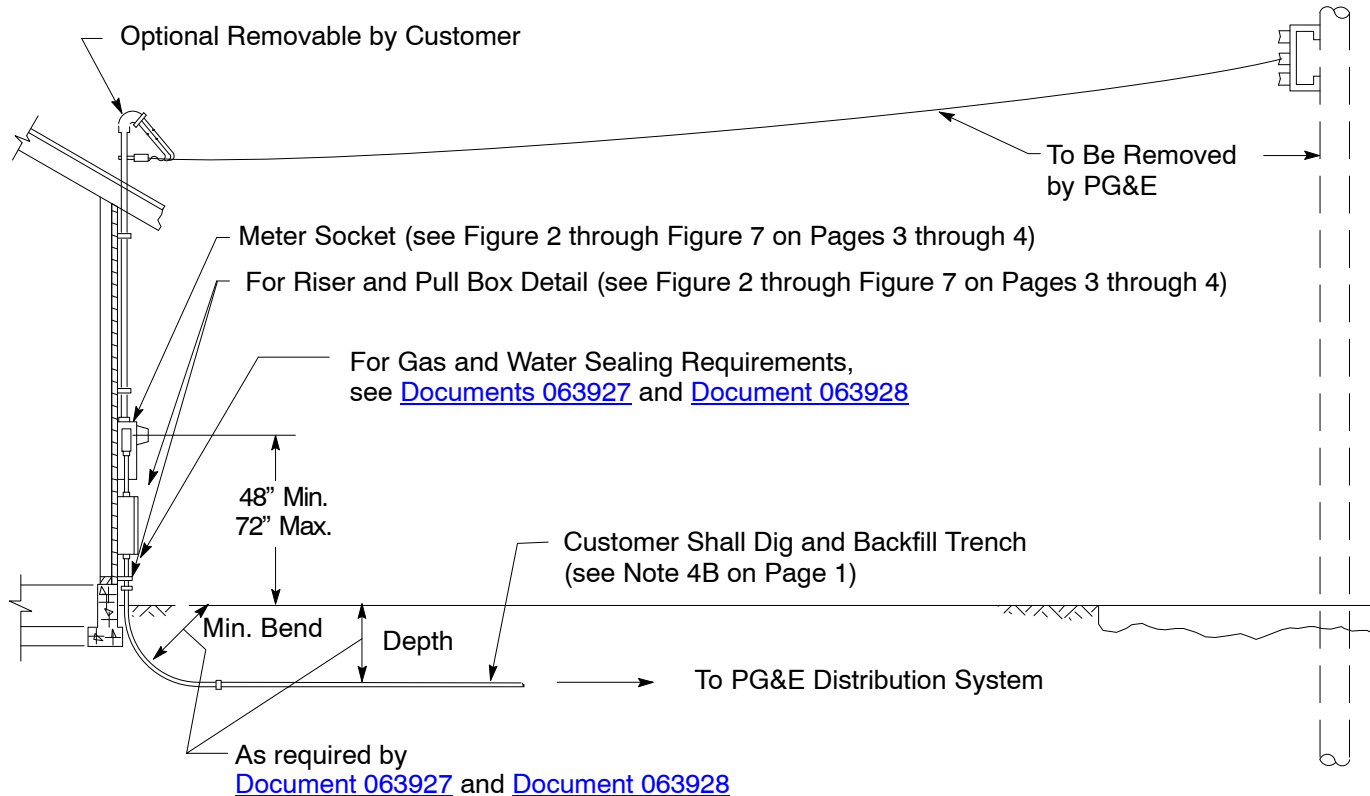
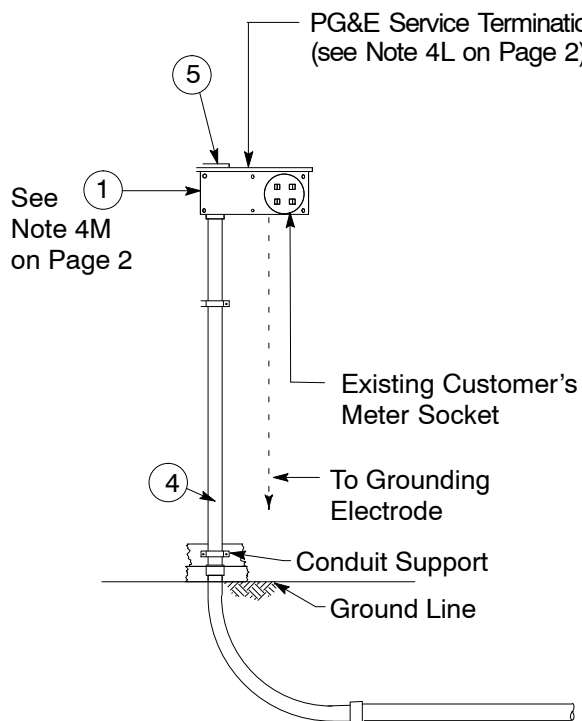
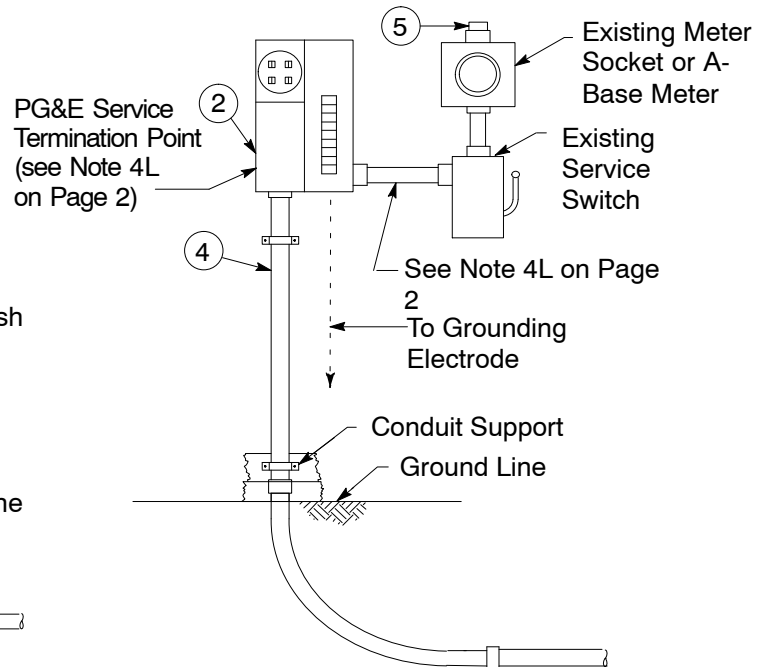

Figure 1
Figure 2
Figure 7
1. A typical overhead service conversion is illustrated in Figure 1 on Page 3. PG&E will install cable in a conduit system provided by the applicant. Various surface mount and semi-flush meter socket installations (illustrated in Figure 2 on Page 3 through Figure 7 on Page 4) are used with services converted to underground. The conversion option selected by the customer shall comply with all local building codes and ordinances. The customer shall furnish, install, own, and maintain termination facilities on or within the building to be served.
- A. PG&E will install the underground service cable and make the connections at the service termination point in accordance with PG&E's Electric Rule 16. The underground service lateral conductors will be installed, owned, and maintained by PG&E from PG&E's distribution system to the termination facility as indicated in Figure 2 through Figure 7 on Pages 3 through 4.
- C. Service conductors will be installed in conduit as shown in Figure 1 on Page 3. For conduit size, refer to PG&E Document 063927 for residential service or Document 063928 for commercial service.
- L. The point where PG&E's service conductors connect to the customer's conductors, as shown in Figure 2 on Page 3 through Figure 7 on Page 4, is identified as the "PG&E Service Termination Point."
3. Revised minimum depth and radius bend in Figure 1 on Page 3.
4. Added Figure 2 on Page 3 with new B-Line meter adapter.